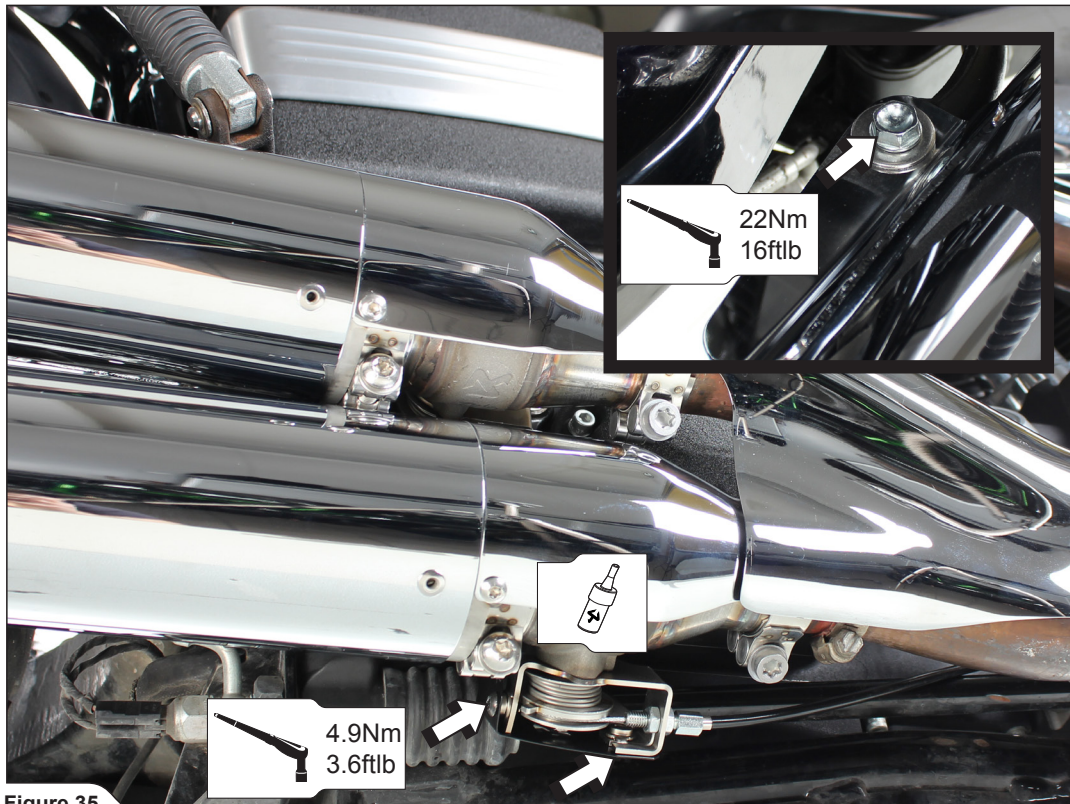

Figure 35
11. Install LOWER valve cover. Align the mufflers in respect to the motorcycle, tighten the UPPER muffler onto the stock bracket (using M8x50 bolt, washers and nut from Akrapovič installation kit), then tighten the mufflers' connection (using M8x16 bolt and washer from Akrapovič installation kit) (Figure 35).